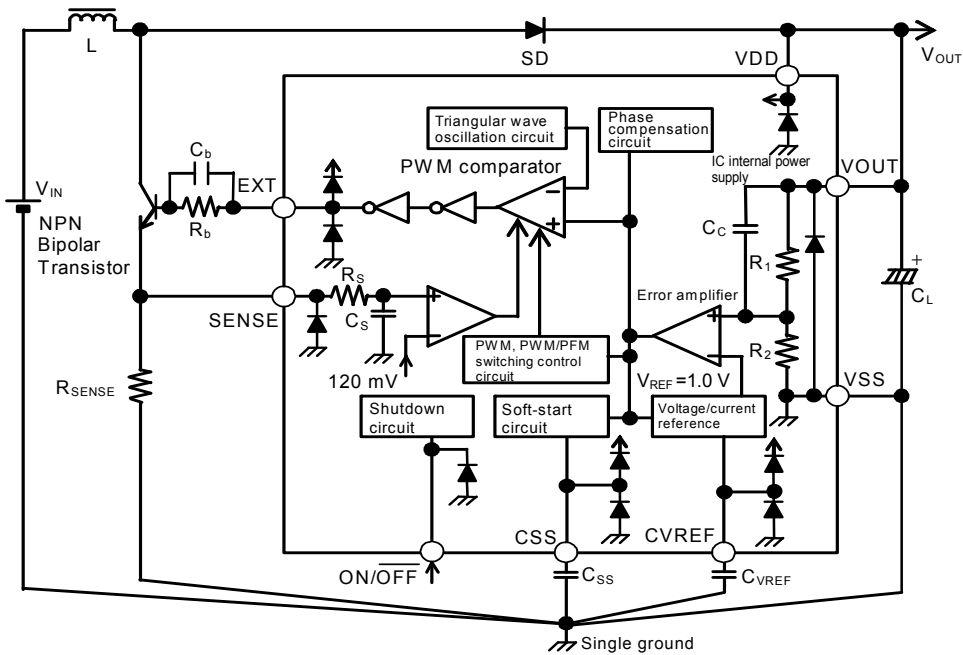

Figure 16 Output Voltage Fixed Output Type
**Figures 16 and 17** in “■ Standard Circuits (2) Using Bipolar Transistors” show sample circuit diagrams using Sanyo Electric Co., Ltd. 2SD1628G for the bipolar transistor (NPN). The driveability for increasing the output current by means of a bipolar transistor depend on the  $h_{FE}$  and  $R_b$  values of that bipolar transistor.
In addition, if a speed-up capacitor ( $C_b$ ) is inserted in parallel with the resistance ( $R_b$ ) as shown in **Figures 16 and 17**, the switching loss will be reduced, leading to a higher efficiency.